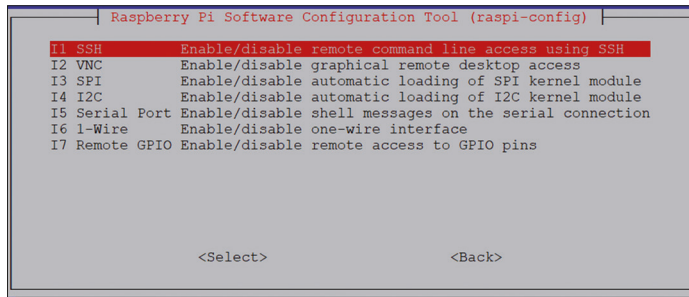

Figure 1.8: Highlight SSH.
- Highlight **SSH** and press Enter (Figure 1.8).